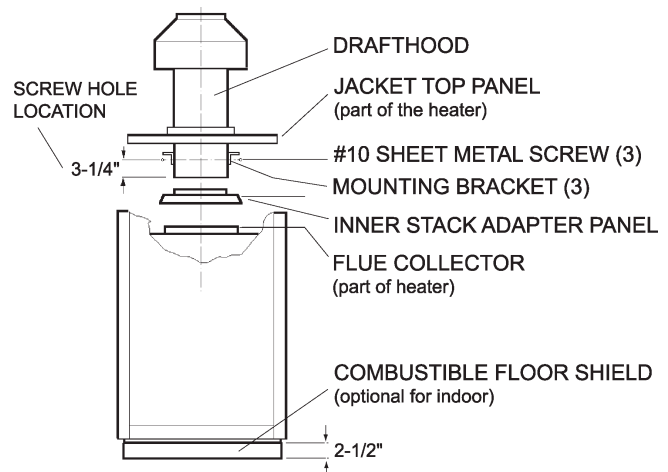

Fig. 8: Indoor Installation—Models 181-401 & 182-400
1. Remove the louvered jacket top by removing four (4) #10 flathead screws.
6. Attach the three (3) mounting brackets to the stack using the screws provided and the holes that are pre-drilled in the stack. **Make sure the brackets are positioned with the flange near the top side of the stack (see Fig. 8). Caution must be taken not to over tighten and strip the screw threads.**
7. Turn the assembled stack and jacket top, rightside up. The jacket top will be trapped between the brackets and the top of the stack. Place the stack over the inner stack adapter panel flanged hole and lower the louvered jacket top panel back into its original position. Reinstall the four (4) #10 flat-head screws removed in step 1 above.